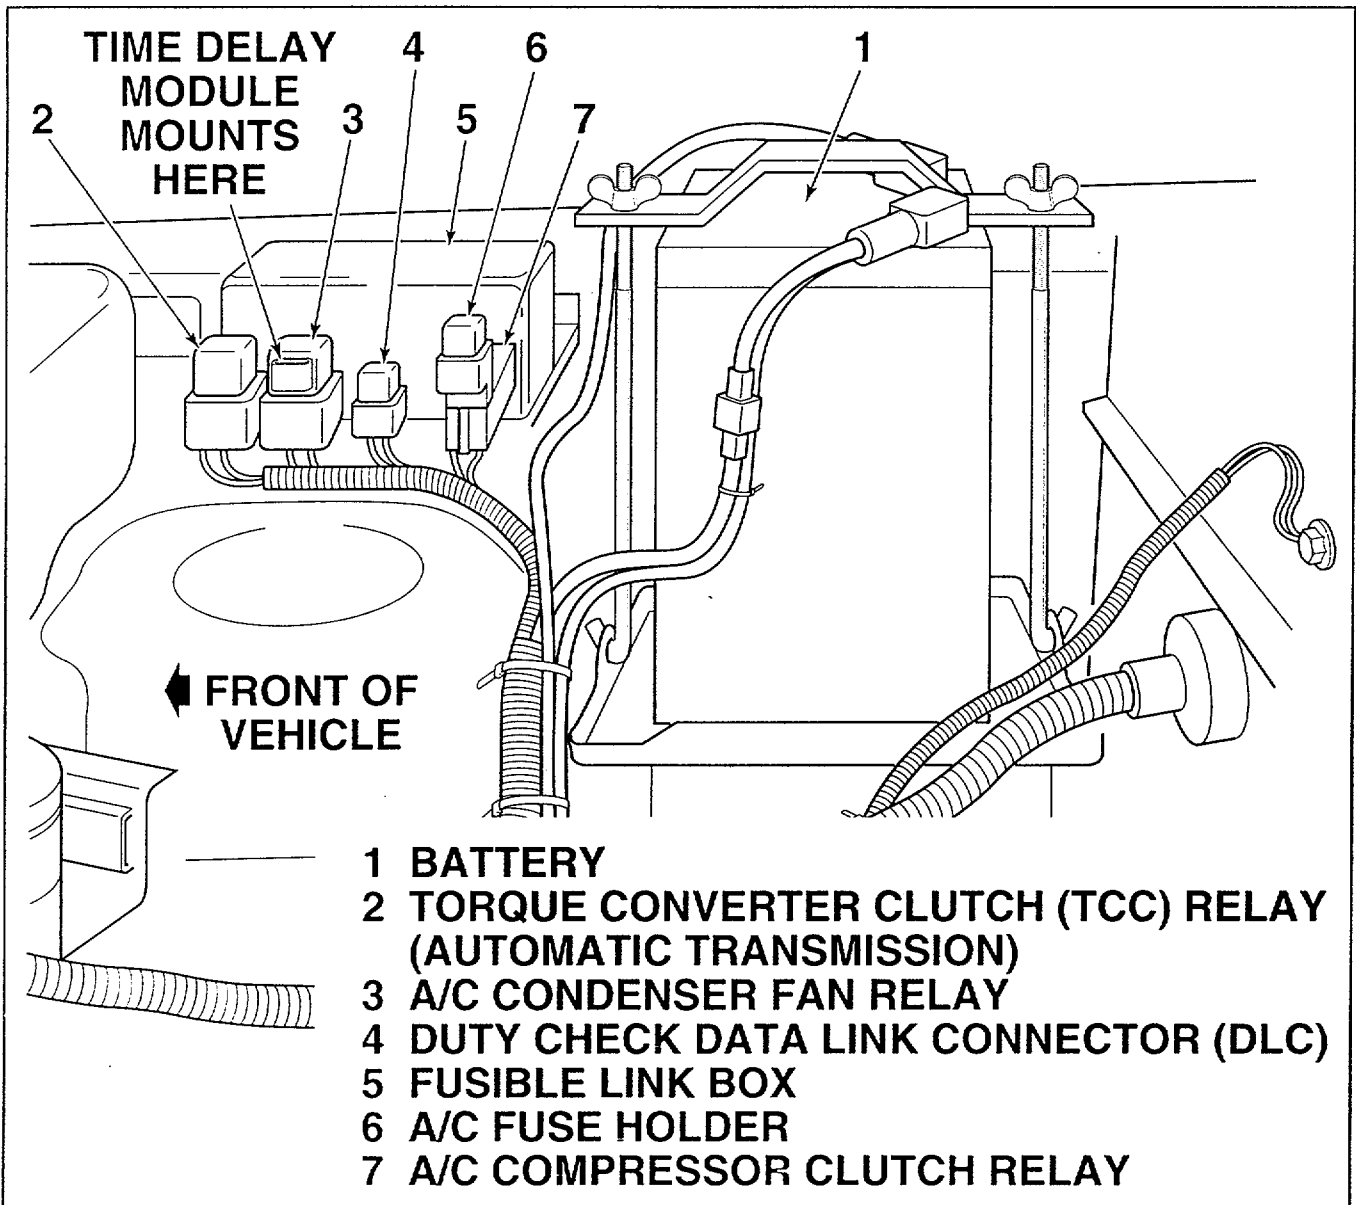

Figure 2
1. Disconnect the battery. (Figure 2)
2. Disconnect the green connector from the TCC relay. (Figure 2)